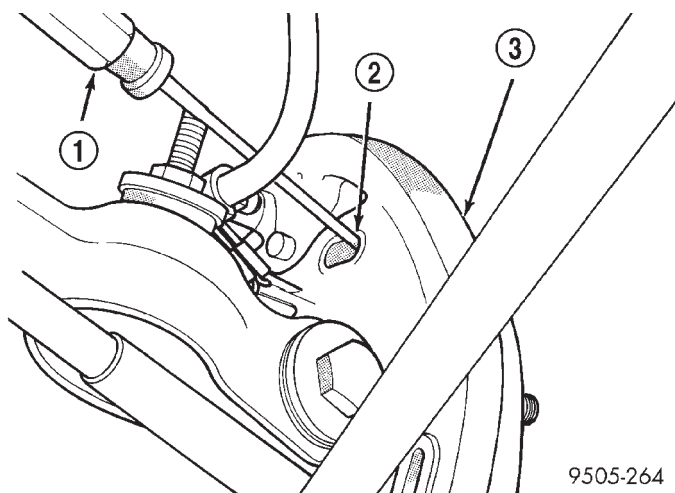

Fig. 116 Backing Off Rear Brake Shoe Adjustment
(2) Insert a screwdriver, through the automatic adjuster access hole, in the rear brake support plate (Fig. 116). Engage screwdriver with the teeth on the adjuster mechanism quadrant. Then rotate quadrant so that the teeth on the quadrant are moved toward the front of the vehicle (Fig. 116). This will back off the adjustment of the rear brake shoes.